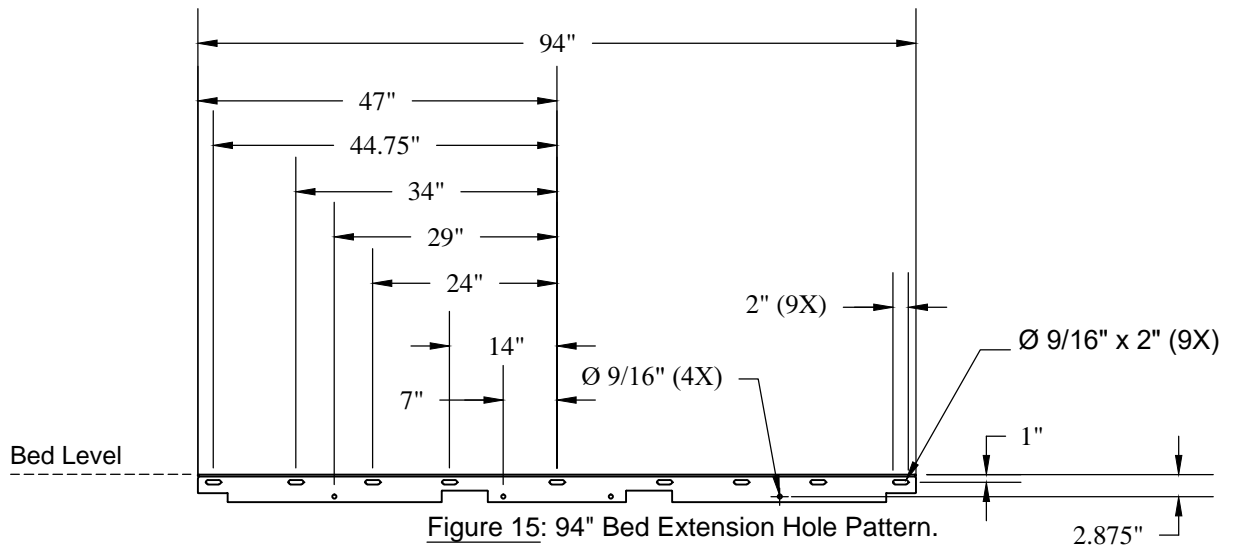

Figure 15: 94" Bed Extension Hole Pattern.
1. **Bolt** the side steps to the bed extension with the eight (8) provided 1/2"x1-1/4" bolts, 1/2" flat washers and 1/2" crown lock nuts.
4. **Drill** 9/16" mounting holes using patterns shown (Figures 15 or 16).